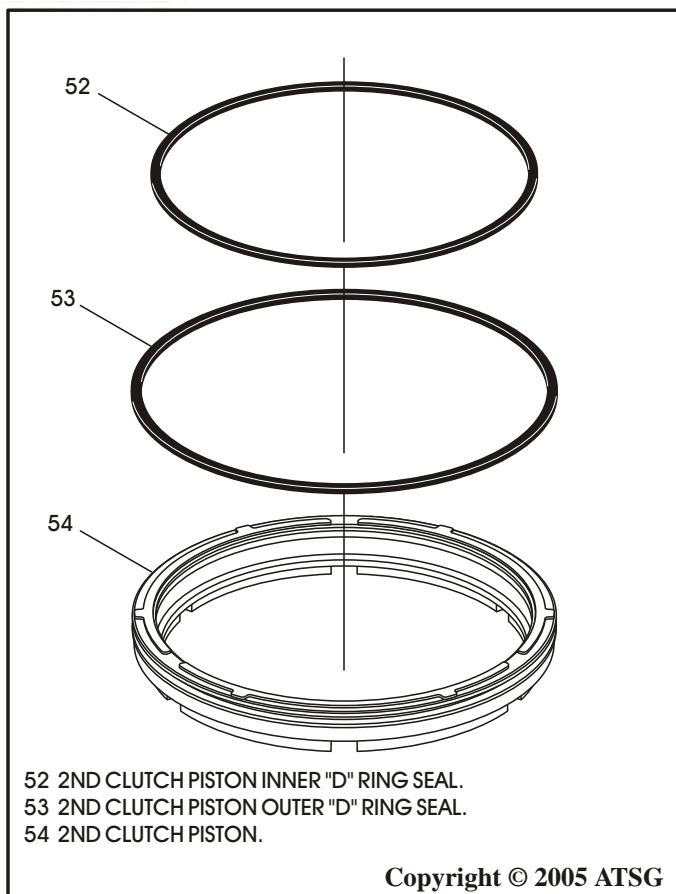

Figure 106
5. Install new inner and outer "D" ring seals onto the 2nd clutch piston, as shown in Figure 106, and lube with a small amount of Trans-Jel®.